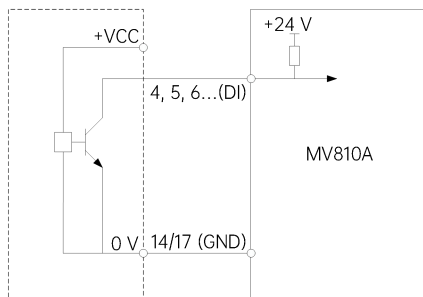

Figure 4-18 Wiring when using the NPN type external controller
- ② Wiring when the external controller adopts the NPN common emitter output, as shown in Figure 4-18.